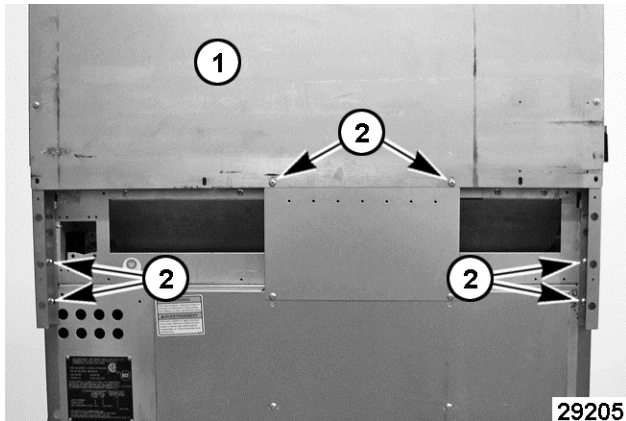

Fig. 9
1. Remove screws (2, Fig. 9) securing backsplash (1, Fig. 9) to frame.